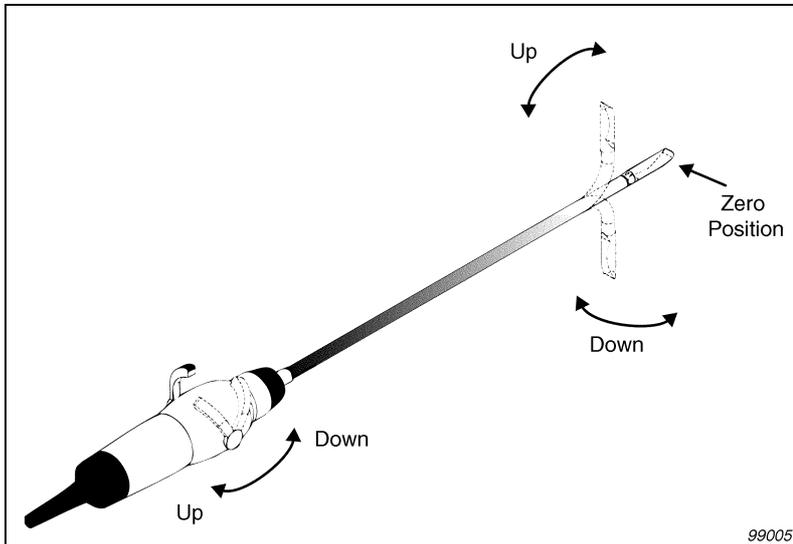
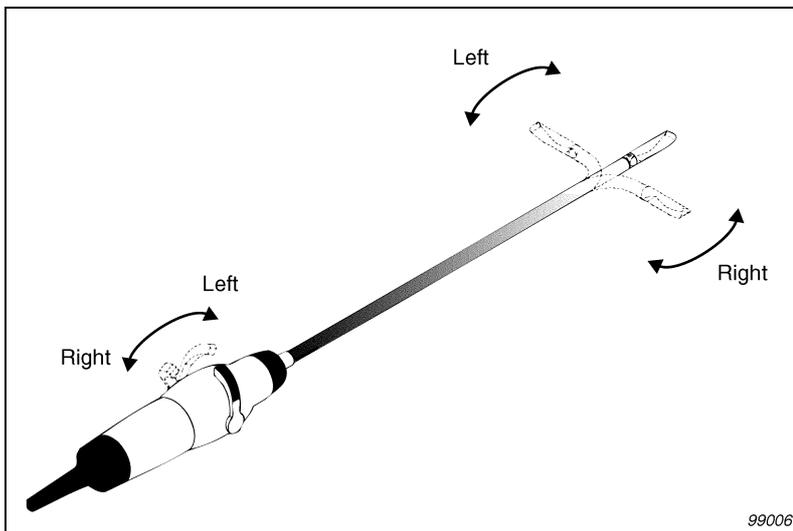

Fig. 4. Movement of the Types 8666 and 8666-RF's flexible tip. Up and down
Fig. 5. Movement of the Types 8666 and 8666-RF's flexible tip. Right and left
The transducer is equipped with a flexible tip. This tip can be adjusted through an angle of up to 90° in 4 planes, with reference to the handle in its upright position; up, down, left and right, see Fig. 4. and Fig. 5.
The up and down movement of the transducer's tip is controlled by the lever on the right-hand side of the transducer handle. Moving the lever forwards moves the tip downwards. Moving the lever backwards moves the tip upwards. See Fig. 4.
The left and right movement of the transducer's tip is controlled by the lever on the left-hand side of the transducer handle. Moving the lever forwards moves the tip to the left. Moving the lever backwards moves the tip to the right. See Fig. 5.
Both levers have a zero position. This position is indicated by a line on the transducer's handle, between the 2 levers. When **both** the levers are adjusted to the zero position then the tip of the transducer will be in the straight, non-adjusted, zero position. See Fig. 4.
1. Ensure that the tip of the transducer is still in the zero, non adjusted position (see Fig. 4.).
6. Using the levers on the transducer handle, ensure that the transducer tip is free to move as needed before tightening the sealing tube again, see Fig. 4. and Fig. 5.